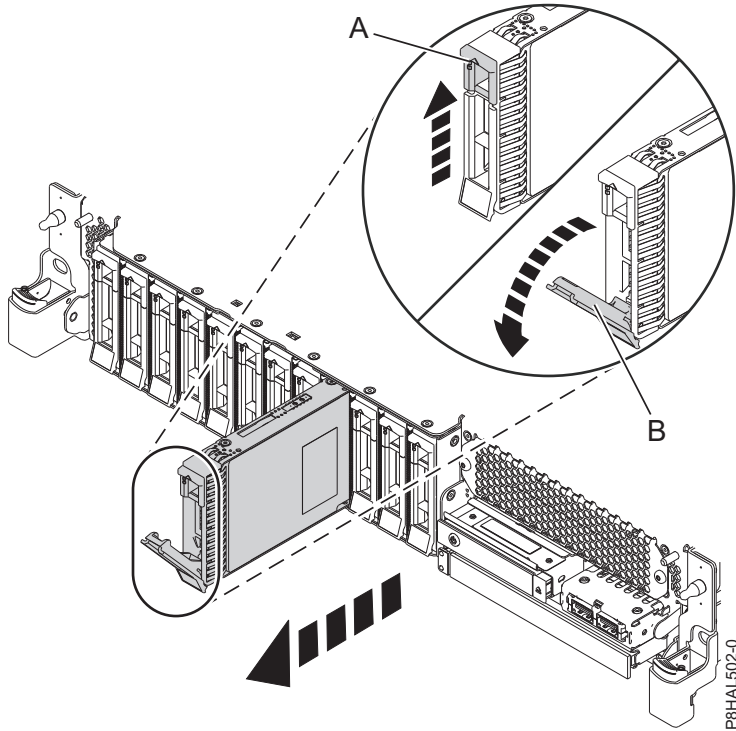
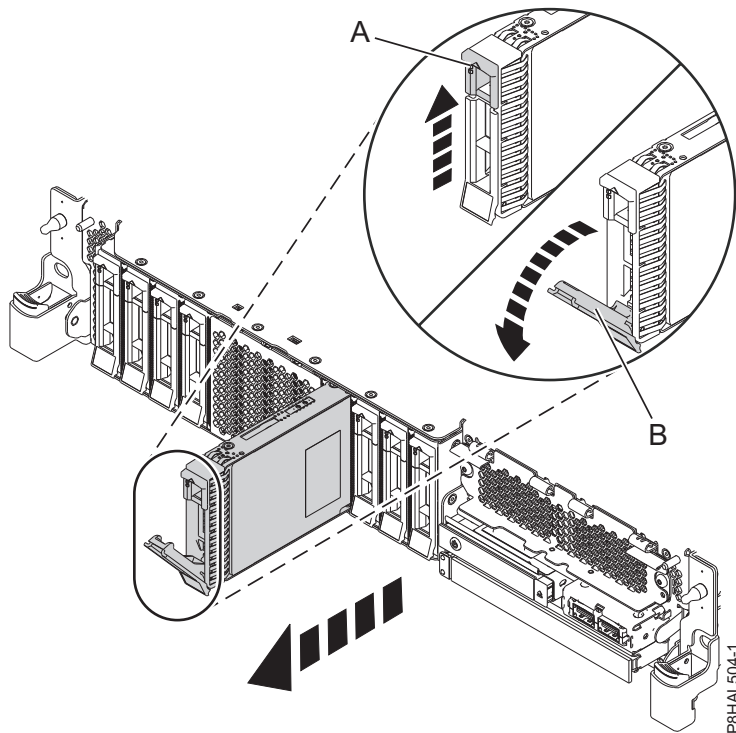

Figure 74. Removing a disk drive from a base function system
Figure 75. Removing a disk drive from an expanded function system
5. When the identify LED turns on solid, unlock the drive bay handle **(B)** by pressing the handle latch **(A)** and pulling it out toward you, as shown in Figure 74 on page 76 and Figure 75 on page 76. If the handle is not all the way out, the solid-state drive cannot slide out of the system.